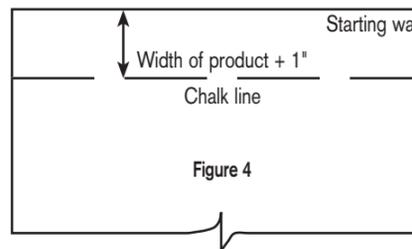

Figure 4
- Using this measurement, in at least two places, measure out equal distance from the starting wall and 12'-18" from the corners (figure 4) and snap a chalk line.